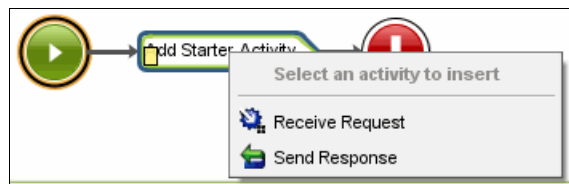

Figure 10-84 Add Receive Request
2. Select **Receive Request**, as shown in Figure 10-84.